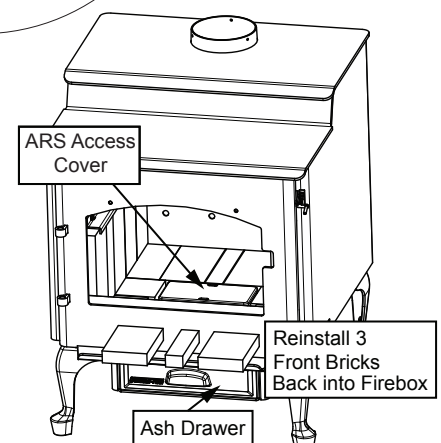

Figure 19.4
1. Replace front 3 bricks that were removed (**Figure 19.4**).
3. Install ARS access cover inside of ARS Channel that is located inside the firebox (**Figure 19.4**).